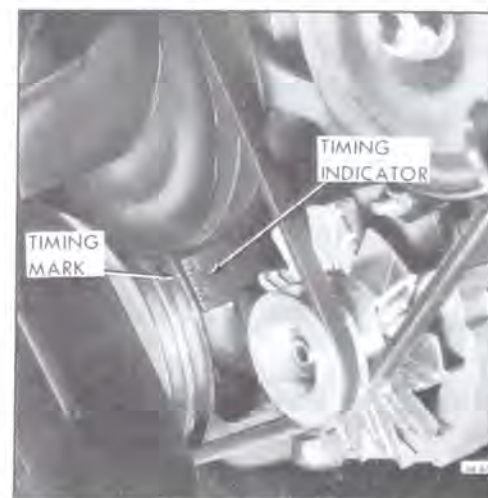

Figure 68-37 - Ignition Timing Mark and Indicator - L-6 Engine
degrees advance mark. See Figure 68-37.
1. With No. 1 spark plug removed and with hole plugged, rotate crankshaft in a forward direction using a suitable wrench on the harmonic balancer to crankshaft bolt. When plug blows from No. 1 cylinder, continue rotation until timing mark on balancer is aligned with proper mark on timing indicator. See Figure 68-37 or 38. No. 1 cylinder is now in position to fire.